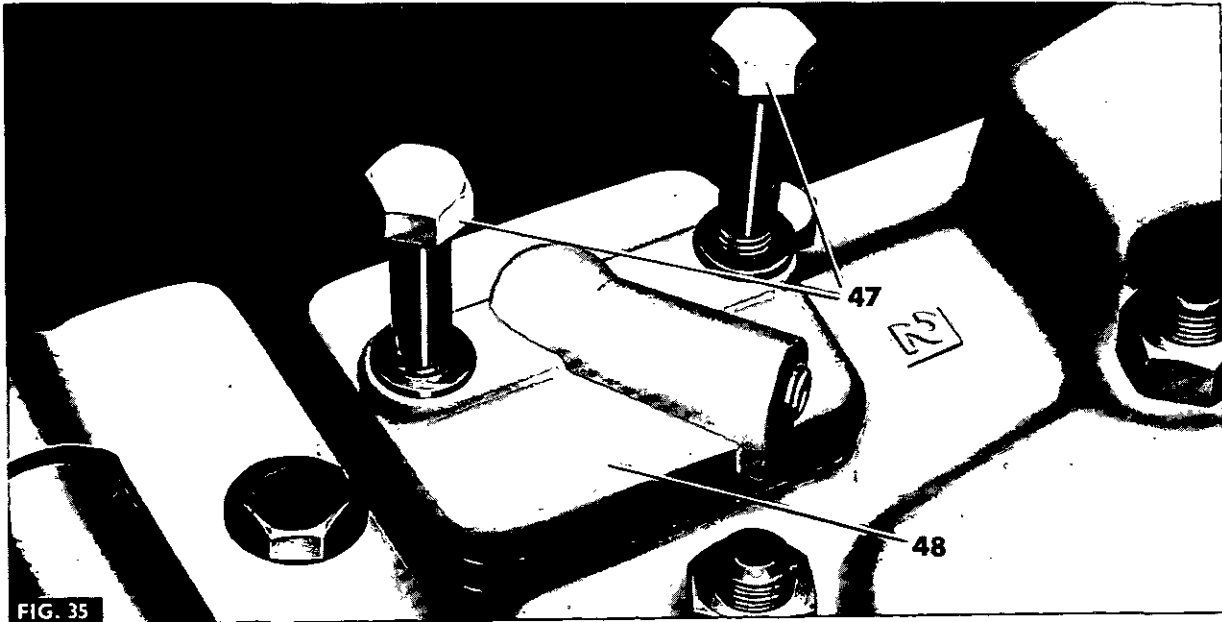

FIG. 35
2. Fig. 35. Remove the two bolts (47) and spring washers securing the transfer cap (48), then carefully ease off the transfer cap, ensuring that the standpipe is not displaced from its location in the hydraulic pump.